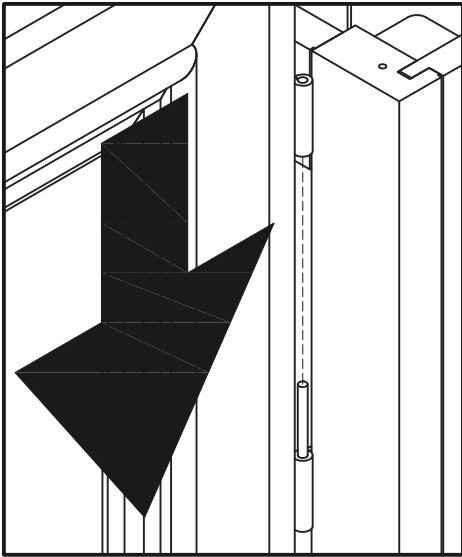

Figure 3
Attach Doors (I) and (J) by sliding the door lift hinges into the side panel lift hinges. (See Figure 3)